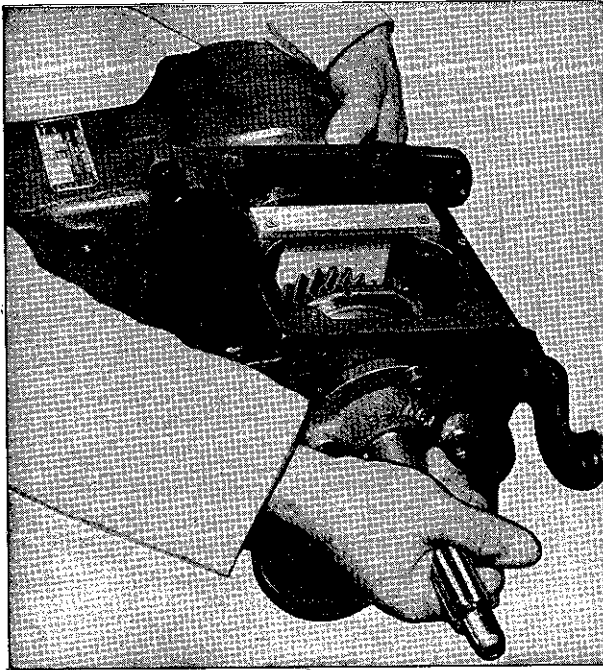

FIG. 205—MAINSHAFT RETAINING PLATE W-194
e. Install transmission mainshaft retaining plate, tool W-194, as shown in Fig. 205 to prevent the mainshaft from pulling out of the transmission